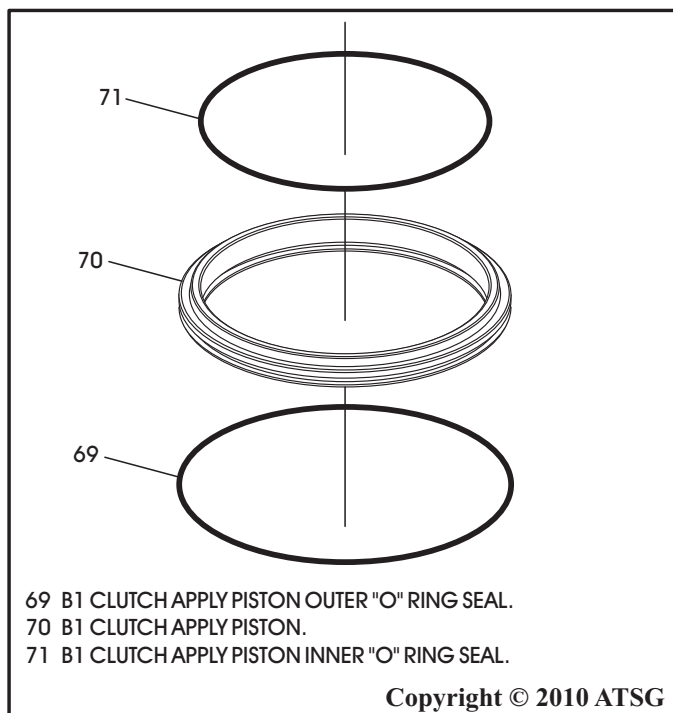

Figure 96
4. Install new "O" ring seals into the grooves on B1 clutch apply piston, as shown in Figure 96, and lube with small amount of Trans-Jel®.